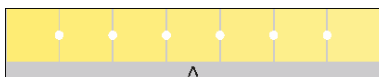

Figure 13—Strip Four
4. Ensure that the last four patches on the Verification Strip are within the color range of the corresponding patches on strip four of the Visual Tolerance Chart (see Figure 13). For example, compare the last yellow patch on the Verification Strip against all the yellow patches on strip four of the Visual Tolerance Chart. The Verification patch should match the patch marked with a V.